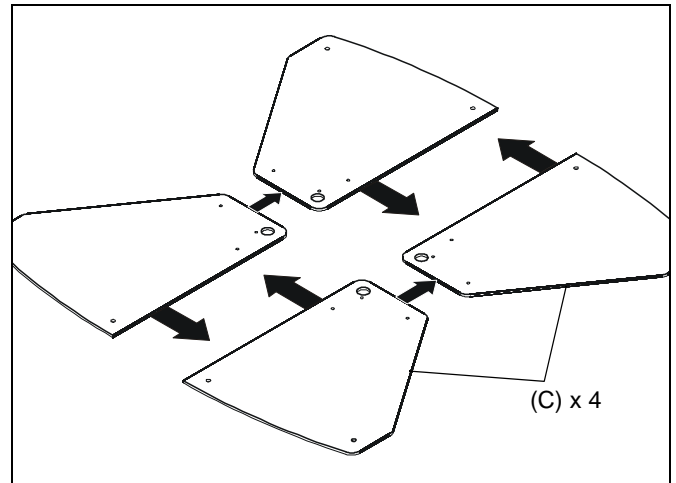

Figure 6
- Gather four base pieces (C) as shown in Figure 6 and push them together until the edges meet.